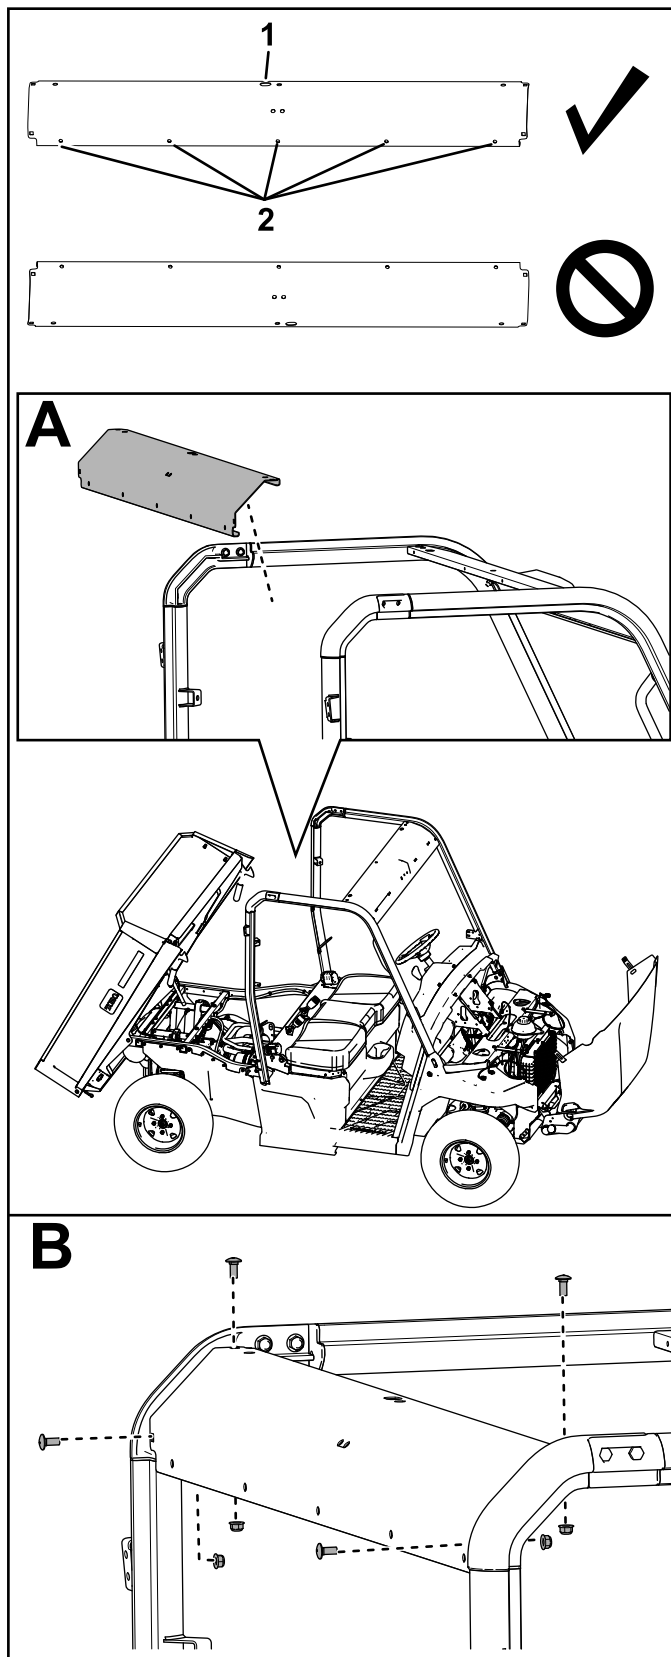

Figure 17
12. Secure the rear crosslink to the rear roll bar assemblies using 4 carriage bolts (5/16 x 3/4 inch) and 4 locknuts (5/16 inch) as shown in Figure 17.
- Ensure that you position the crosslink as shown in Figure 17.